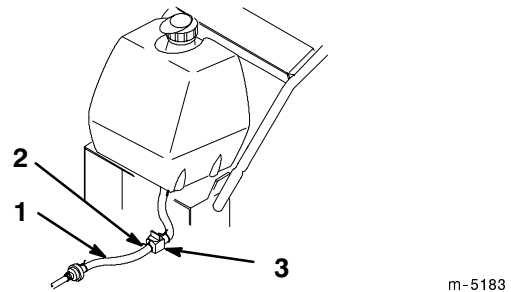

Figure 5
- Slide the hose clamp onto the fuel line (Fig. 5).
- Push the fuel line onto the fuel shut off valve and secure it with a hose clamp (Fig. 5).